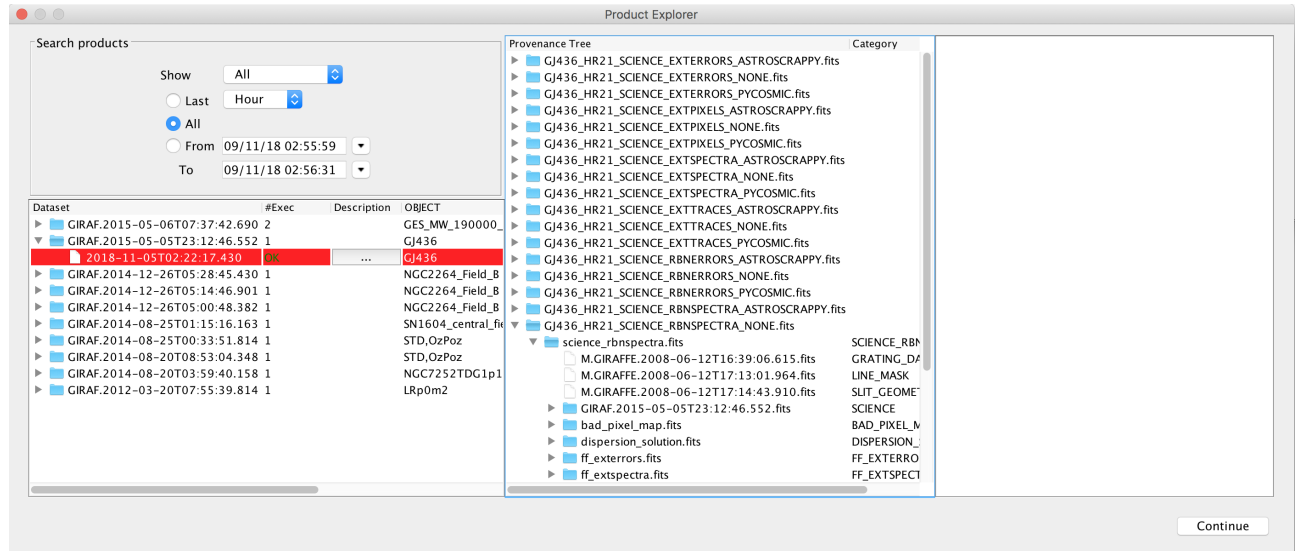

Figure 4.11: The Provenance Explorer shows all datasets reduced in previous executions together with the full reduction chain for all the pipeline products.
23. Once the reduction of all datasets has finished, a pop-up window called *Product Explorer* will appear, showing the datasets which have been reduced together with the list of final products. This actor allows the user to inspect the final data products, as well as to search and inspect the input data used to create any of the products of the workflow. Figure 4.11 shows the Product Explorer window. A full description of the *Product Explorer* will be presented in Section 6.2.6.